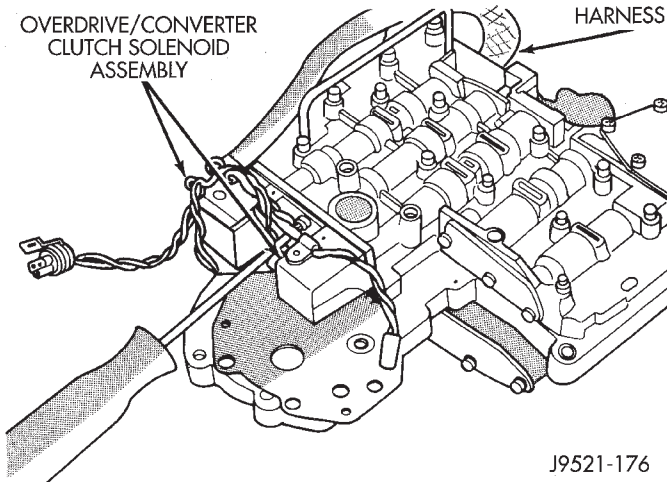

Fig. 68 Solenoid Assembly Screws
(9) Turn valve body over and remove screws that attach overdrive/converter solenoid assembly to valve body (Fig. 68).